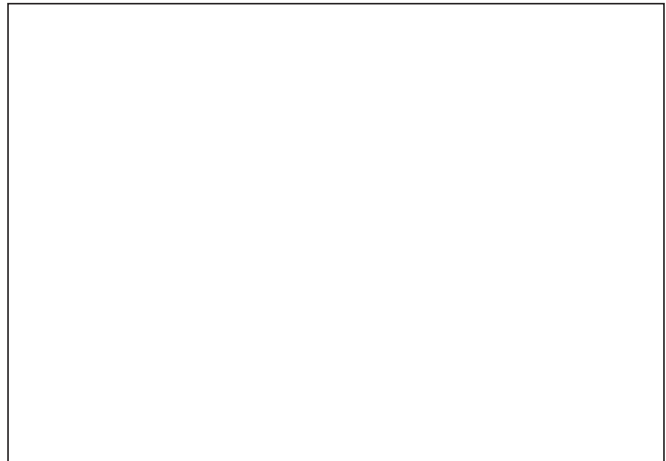

Figure 4-14: 1,250 Foot-Pounds of Torque
3. When reassembling the disc gang, remove any soil or mud from the disc blades and spools to ensure a clean surface when tightening the gang. Clean the gang threads and install the gang nut. Torque the disc gang shaft to a minimum of 1250 ft-lbs (See Figure 4-14.)
Tighten all 1-3/4" nuts to 1,250 foot-pounds of torque (See Figure 4-14.)